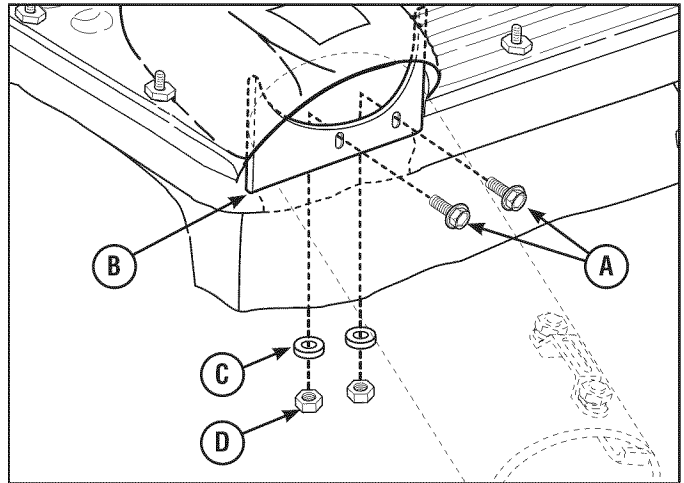

Figure 16
3. Insert bolts (A, Figure 16) through debris shield (B), holes of dust skirt and catcher frame.
4. Secure debris shield with washers (C) and locknuts (D).